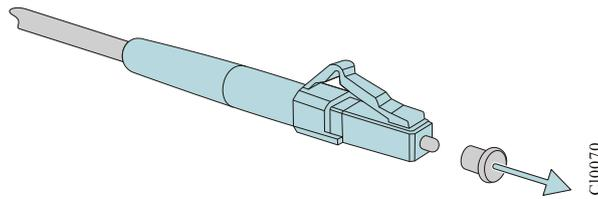

FIGURE 4-11 REMOVE FIBER DUST CONNECTOR
- Step 2: Remove the dust cap of the fiber connector, as shown in Figure 4-11.